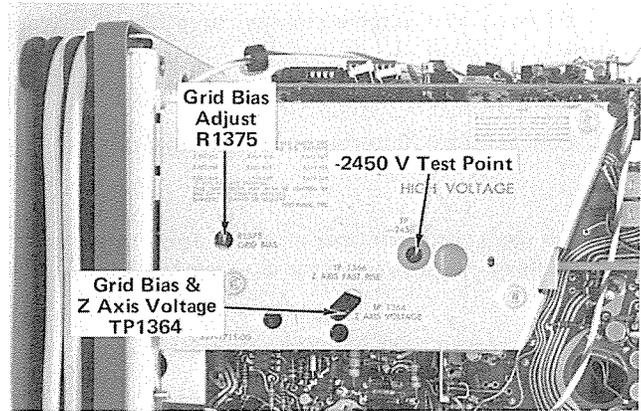

Fig. 5-3. Location of high-voltage and Grid Bias test points and adjustments.
a. Connect the DC Voltmeter between the -2450-volt test point and ground (positive meter lead to ground). See Fig. 5-3.
a. Connect the DC Voltmeter between TP1364 and ground. (Negative meter lead to ground.) See Fig. 5-3.
d. ADJUST—CRT Grid Bias adjustment, R1375 (see Fig. 5-3) for dimmest, visible dot.